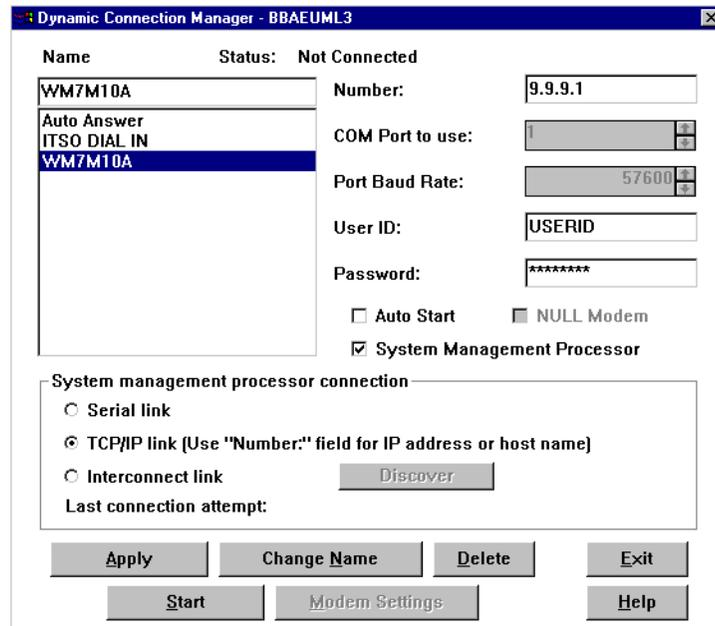

Figure 64. Dynamic Connection Manager
1. On the ThinkPad start Netfinity Manager and Dynamic Connection Manager. Configure and establish a TCP/IP connection with an ASM PCI adapter in the Netfinity 7000 M10. Fill in the dialog box in a similar fashion to Figure 64.